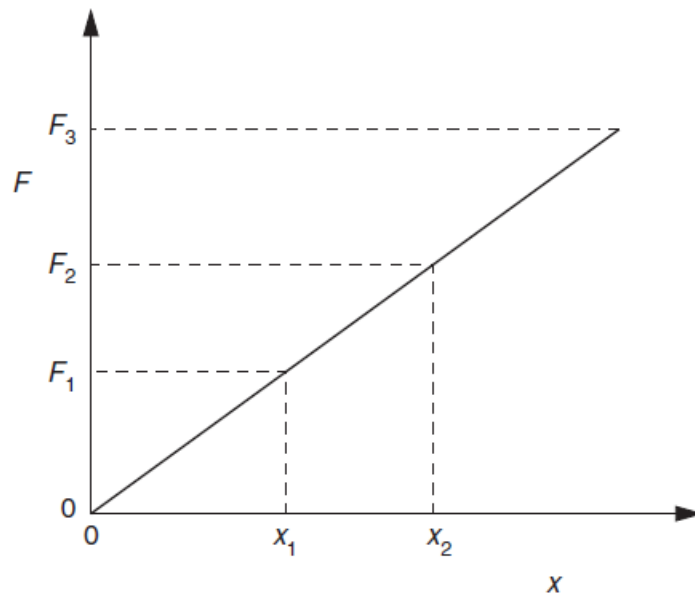

Fig. 5.1
- 5 Fig. 5.1 shows the variation with force F of the extension x of a spring as the force is increased to F_3 and then decreased to zero.